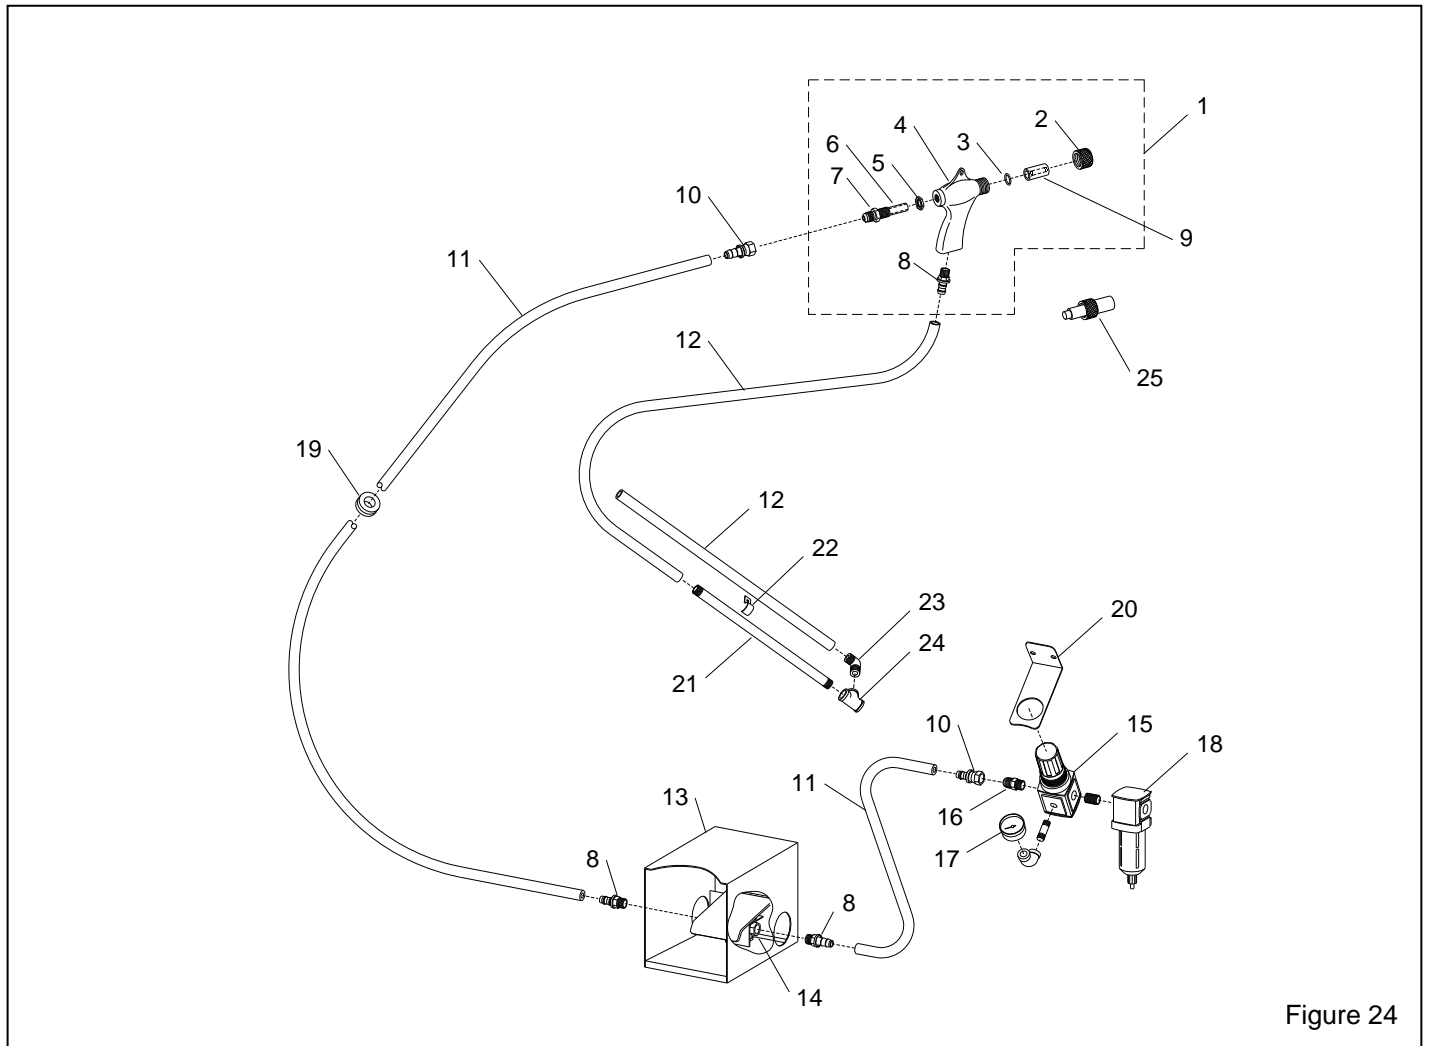

Figure 24
10.9.2 Make sure the air hose and media hose are not reversed on the gun; the green air hose attaches to the back of the gun and the clear media hose attaches to the bottom of the gun's grip. Refer to Figure 24.
11.4 Air and Gun and Feed Assembly, Figure 24